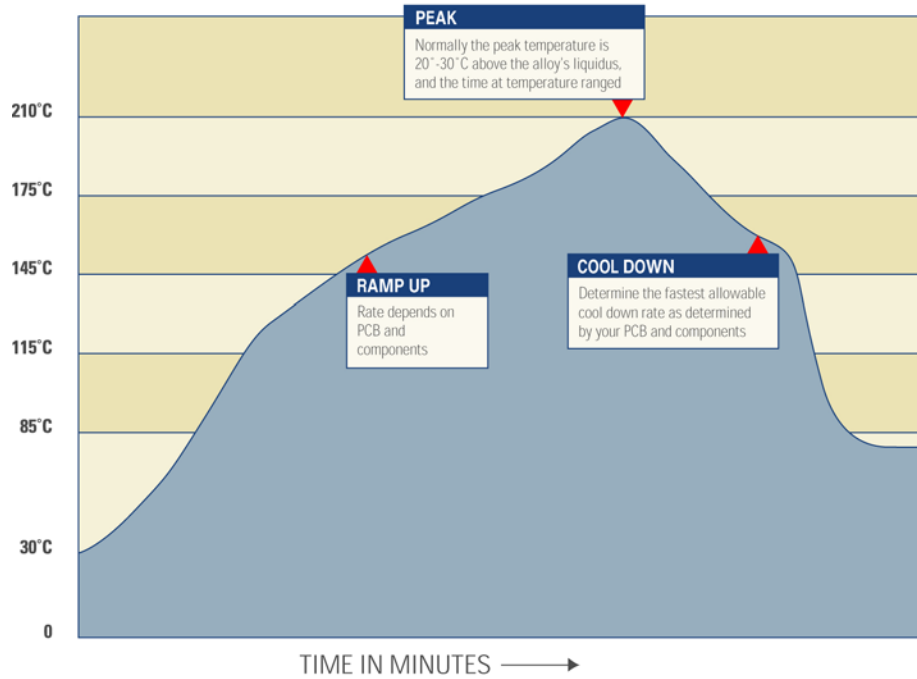

Fig. 6A
- 9.1.7 See Figure 6A for sample profile.